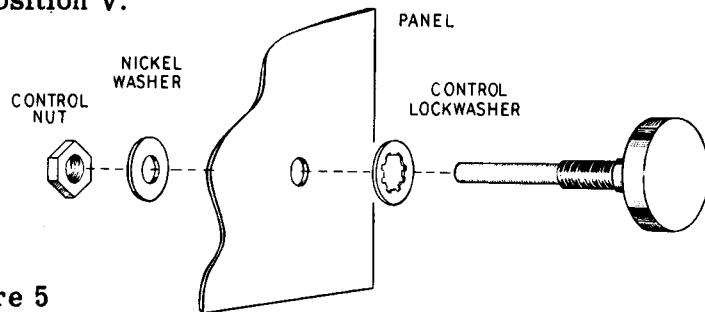

Figure 5
- ( ) Mount the single wafer rotary switch at W, Pictorial 1, using a 3/8 lockwasher inside the chassis and a 3/8-32 control nut and flat washer on the outside. Refer to Figure 5.